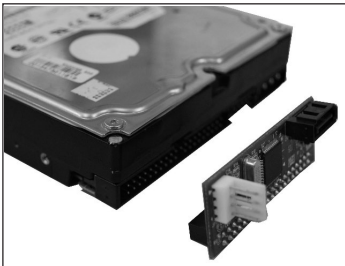

Figure 2
4. Connect the *SATA-to-IDE Adapter* to the Ultra ATA/ATAPI device, refer to **Figure 2** and **3**.